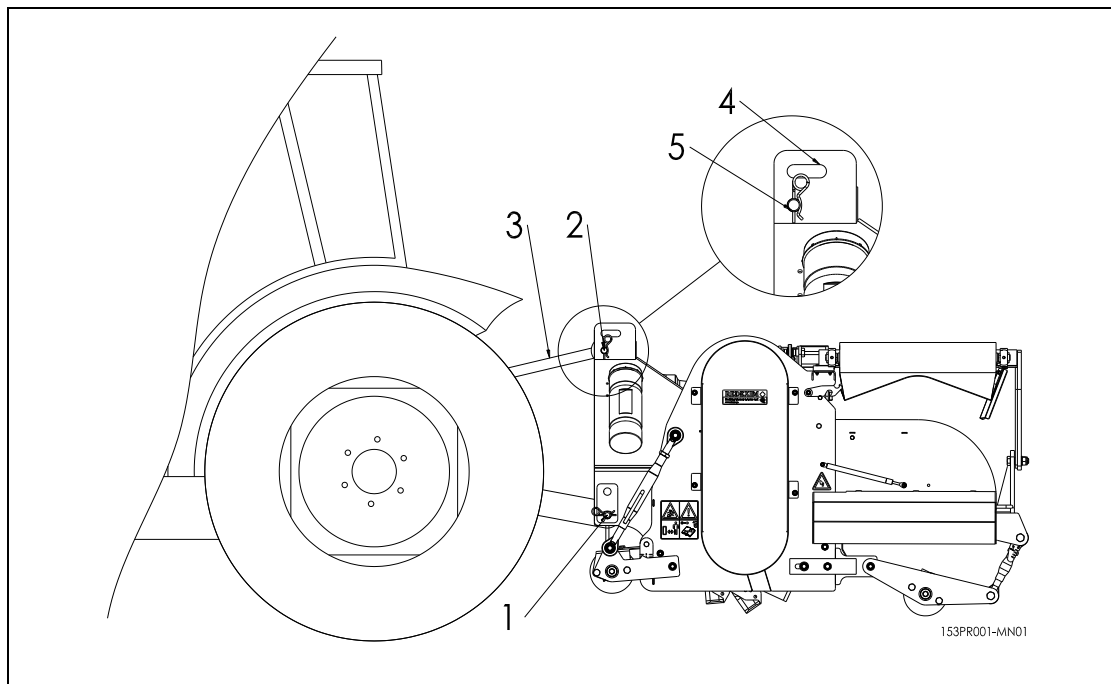

Figure 9
The procedure is as follows (Figure 9):
In order to set the PTO to the correct length, when a new one has been purchased or when a different tractor is used, follow these steps (see Figure 9):
**Make sure that the uppermost top rod is attached and is pressurized in the transport position (position 5)! See Chapter 4.0, figure 9. If this is not done, the machine can incur serious damage.**
6. If required, the top rod can be placed in the slotted hole (4) in the towing position (see Chapter 4.0, figure 9).